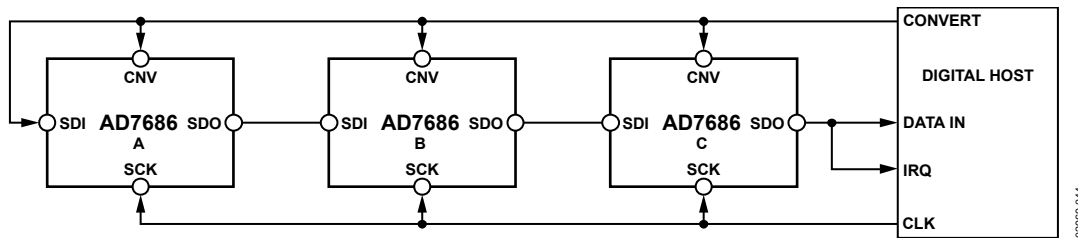
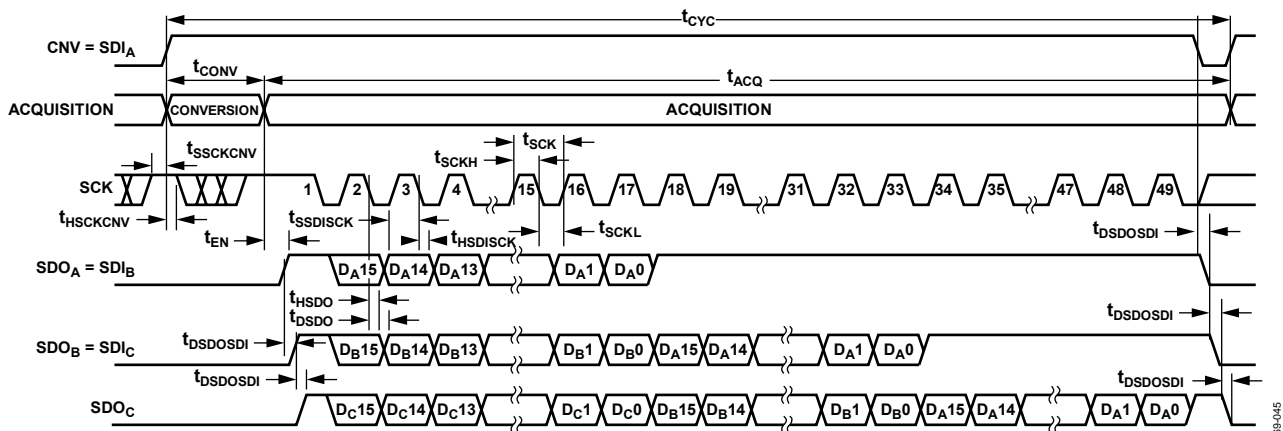

Figure 43. Chain Mode with Busy Indicator Connection Diagram
Figure 44. Chain Mode with Busy Indicator Serial Interface Timing
- In chain mode, if SCK is high during the CNV rising edge (see Figure 44).
This mode can be used to daisy-chain multiple AD7686s on a 3-wire serial interface while providing a busy indicator. This feature is useful for reducing component count and wiring connections, for example, in isolated multiconverter applications or for systems with a limited interfacing capacity. Data readback is analogous to clocking a shift register. A connection diagram example using three AD7686s is shown in Figure 43, and the corresponding timing is given in Figure 44.
When SDI and CNV are low, SDO is driven low. With SCK high, a rising edge on CNV initiates a conversion, selects the chain mode, and enables the busy indicator feature. In this mode, CNV is held high during the conversion phase and the subsequent data readback. When all ADCs in the chain have completed their conversions, the nearest ADC (ADC C in Figure 43) SDO is driven high.